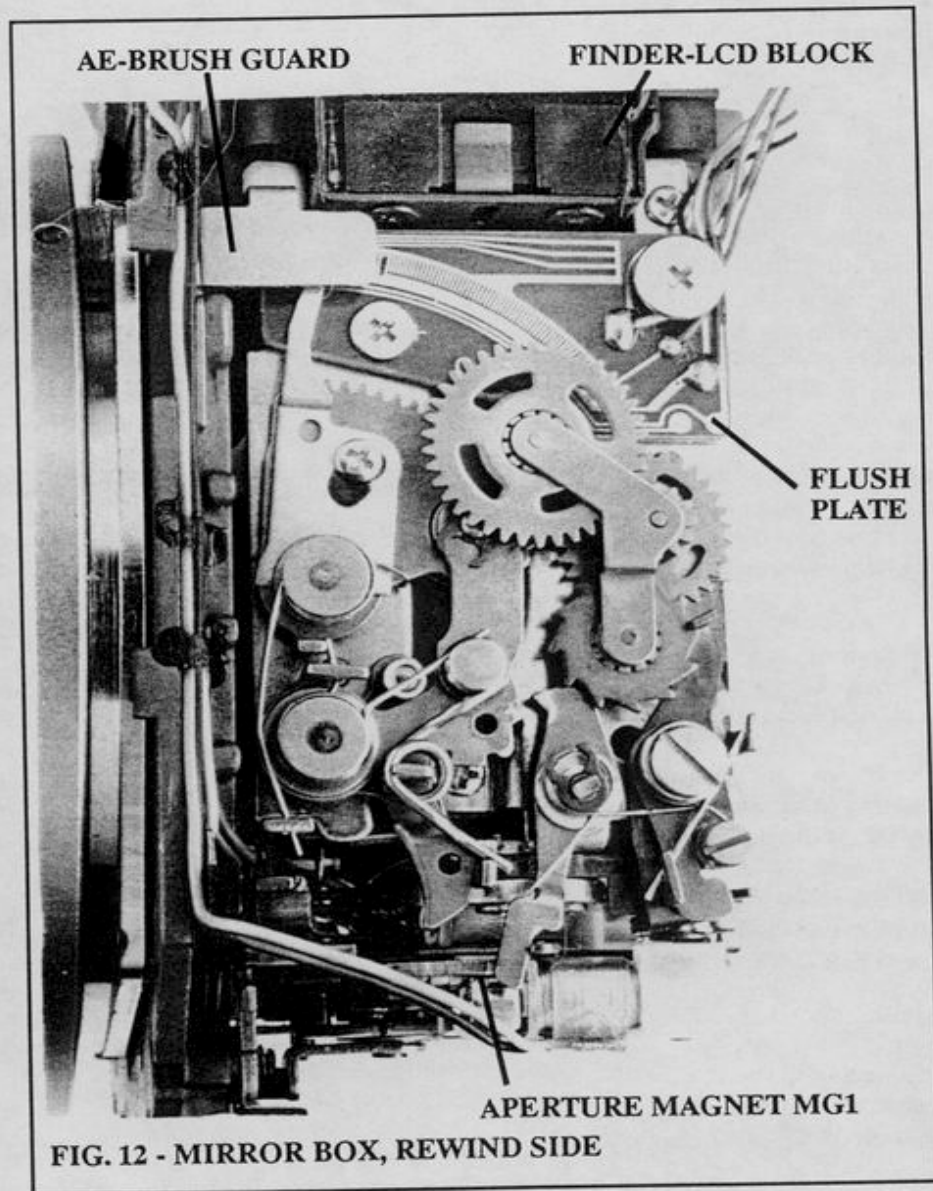

FIG. 12 - MIRROR BOX, REWIND SIDE
SW12. AE charge switch, on flush plate, side of mirror box, Fig. 12. On (pink wire, Fig. 28, to ground) when the flush-plate brush is fully charged (diaphragm fully charged). Turns off as the brush moves down (moved by closing diaphragm). When on, SW12 connects pin 17 of IC3 to ground to tell IC3 that the mirror charge is complete.
SW24. Flush-plate code switch on mirror box, Fig. 12. Connects to IC3 pin 45 through the purple wire, top of main flex, Fig. 28. As the diaphragm closes, the flush-plate brush moves along the series of flush-plate contacts to generate a pulse signal (0.05V to ground)., purple wire to ground. IC3 counts the pulses to determine how far the diaphragm has closed.
SW33 - 36. AVO switches on AE unit, Fig. 12 (opposite side from that shown in Fig. 12), controlled by maximum-aperture control pin. Input to IC5 for exposure calculation. The AVO inputs are either high or low depending on the maximum aperture of the lens. Check at the yellow, brown, red, and gray wires, Fig. 28, as you push in the maximum-aperture control pin. Each connection should switch to ground at some point in the movement.
1. **Aperture magnet Mg1.** Electromagnet on mirror box, Fig. 12, controlled by IC4. Energized when the shutter releases to hold its armature and allow the diaphragm to close. To set the aperture, IC4 switches the blue M1 lead high. M1 releases its armature to stop the diaphragm closure.